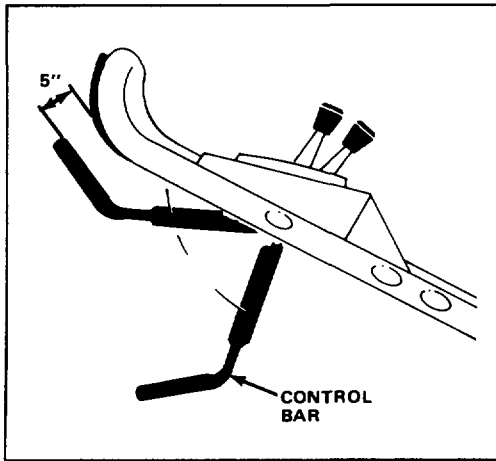

Figure 16
3. Push the control bar down to the lowest position (Fig. 16). This "cocks" the mechanism prior to engaging the blade.
4. Lift the control bar to the normal "blade engaged" position, about 1" below the handle (Fig. 16). The "fan" noise and bag inflation indicate that the mower blade is engaged and rotating.
7. Push the control bar down to its lowest position, cocking the mechanism (Fig. 16).